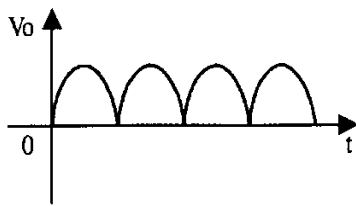

Fig. 2.4
- DC: the collector is applied with DC pulsating voltage, rectified but not filtered (see fig. 2.4);